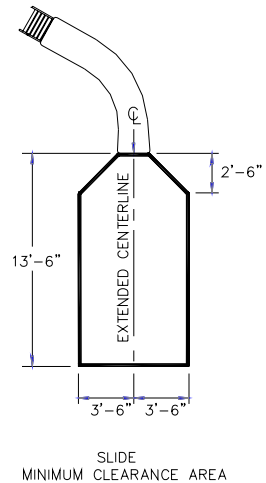

FIG. 3
- A. The minimum clearance distance on either side of the extended centerline of the slide runway shall not be less than three feet six inches (3'-6") at a point no less than two feet six inches (2'-6") from the exit lip of the slide and extending a distance of thirteen feet six inches (13'-6") in front of the slide as shown in **FIG. 3**.
See Article 5 contained in ANSI/NSPI-5 2003 STANDARD FOR RESIDENTIAL INGROUND SWIMMING POOLS and refer to FIGURE 3 and Table 1 for Minimum Water Envelope Dimensions AB, BC and Width at Point C.